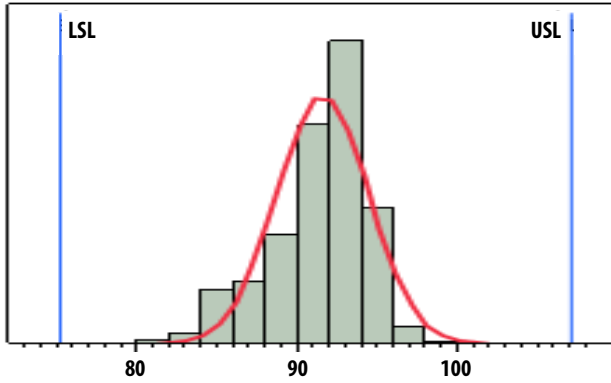

Figure 1. Idd, LSL = 75 mA, nominal = 92 mA, USL = 107 mA
RF performance at T_A = 25° C, V_{dd} = 5 V, 849 MHz, measured on demo board in Figure 1 with component listed in Table 1 for DC bypass.
1. Measurements at 849 MHz obtained using demo board described in Figure 1.